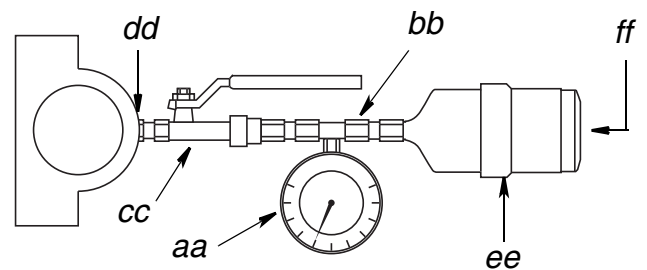

FIG. 3
A pressure manometer is a simple device that measures pressure output. To build a pressure manometer you need a pressure gage (aa), tee fitting (bb) and stop valve (cc). FIG. 3 shows a correctly assembled pressure manometer, connected to the lubricator and a lubrication point.
5. Screw a pressure manometer into the lubrication point (dd) (FIG. 3, page 7).
7. Attach lubricator and adapter (B) to the pressure manometer as shown in FIG. 3 and turn the switch to "ON" (ff).
11. Disconnect adapter (B) from manometer.